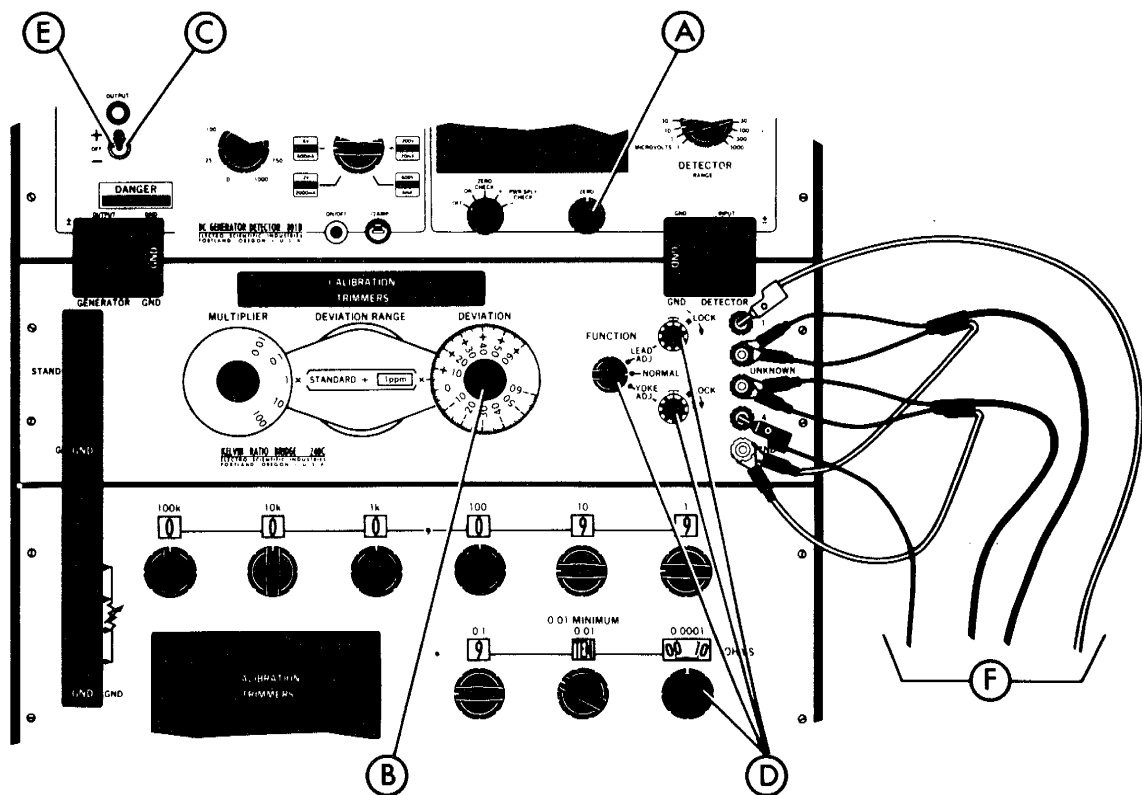

Figure 5-18. Bridge Calibration at 100 ohms
18. Calibrate the 242D bridge to the series-parallel connected 100 ohm-per-step SR1030. Reference Figure 5-18.